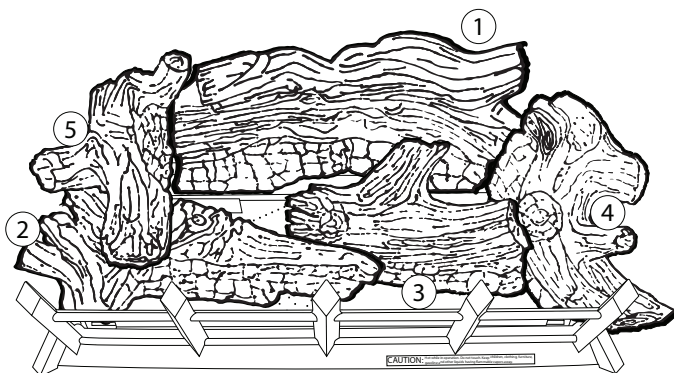

Figure 6.31 - Log #5 Placement
5. Place the top left log (#5) on the left side of the burner allowing the log to rest on top of the front left log (#2). See Figure 6.31.